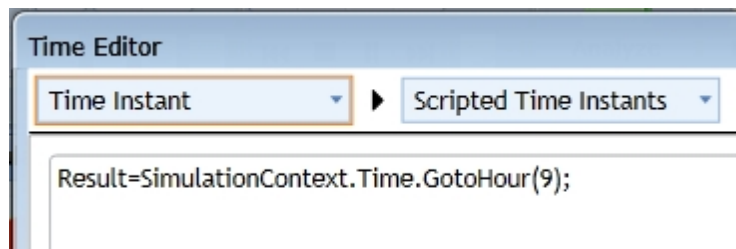

Figure 2 - Assigning the starting time for the start event
- Put this line into the text area: `Result=SimulationContext.Time.GotoHour(9);` (see figure 2)